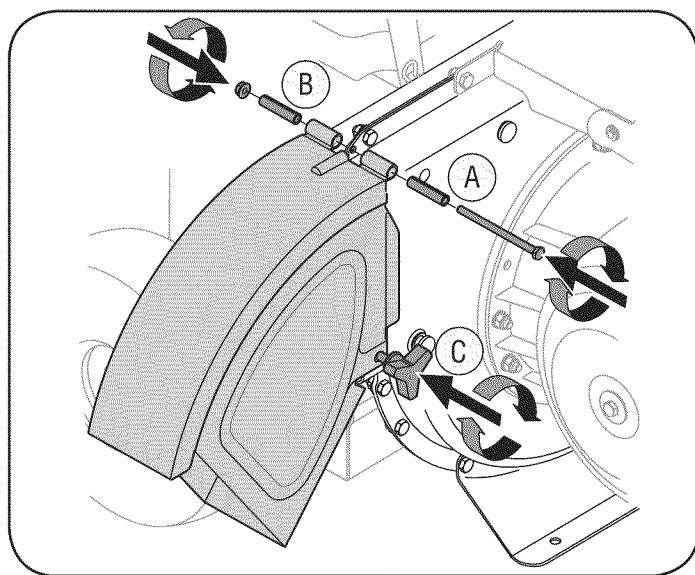

Figure 4
2. A. Align the chute deflector in position on the discharge opening and insert hex bolt with spacer through hinge on chute deflector (spacers fit inside of hinges). See Figure 4.